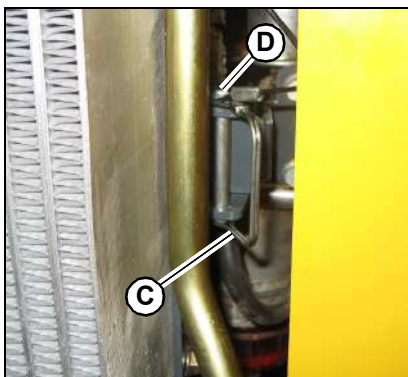

Figure 93 – Radiator Latch
- a. Pull down on spring pin lock (C, Figure 93) to release pin (D). Lift pin (D) out of the bracket.
- c. When engine maintenance is complete, return the radiator back to the closed position and secure it in place with pin (D). Lock pin (D) in the bracket with spring pin lock (C).